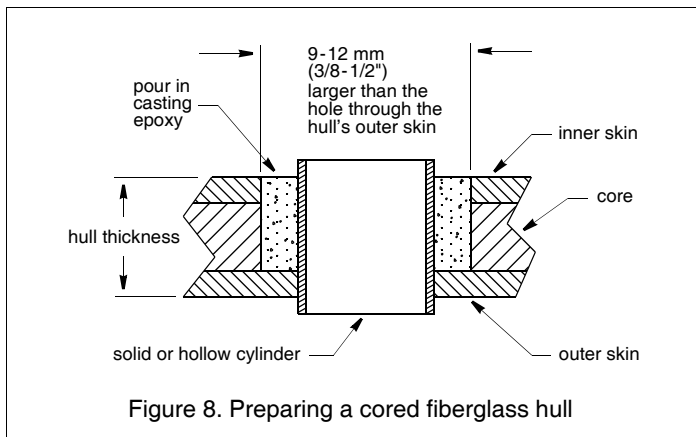

Figure 8. Preparing a cored fiberglass hull
1. Drill a 3mm or 1/8" pilot hole from inside the hull (see Figure 8). If there is a rib, strut, or other hull irregularity near the selected mounting location, drill from the outside. (If the hole is drilled in the wrong location, drill a second hole in a better location. Apply masking tape to the outside of the hull over the incorrect hole and fill it with epoxy.)